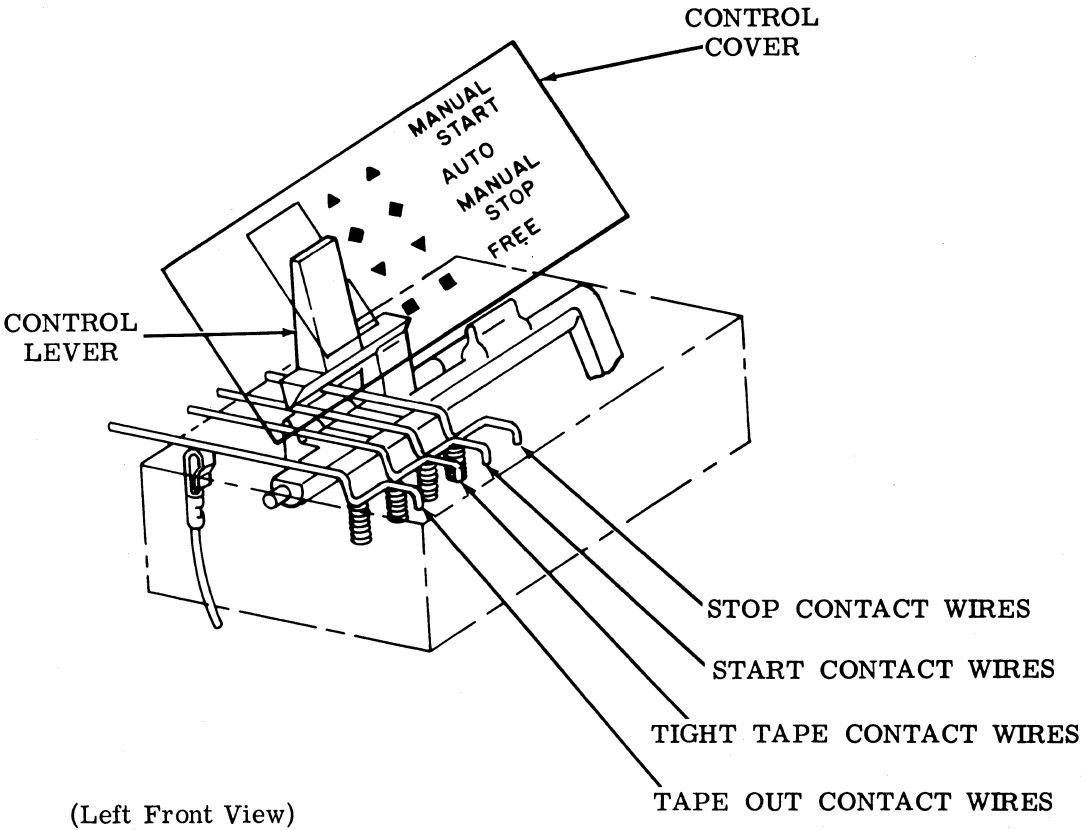
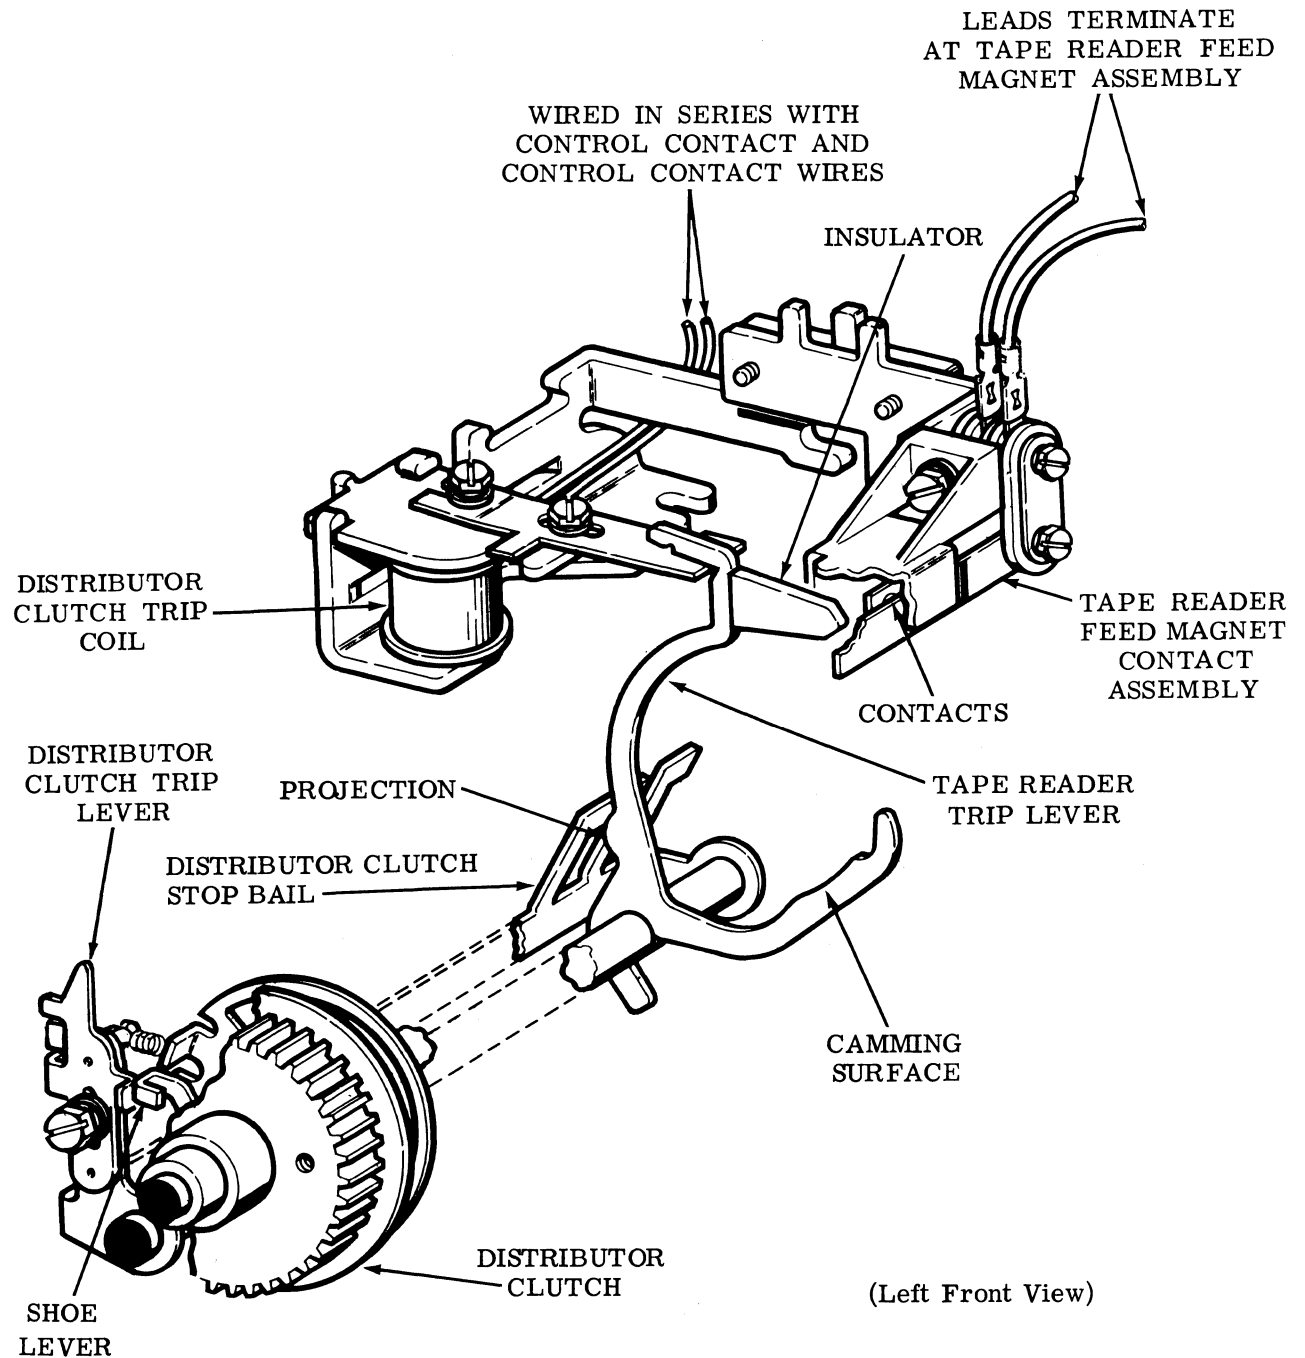
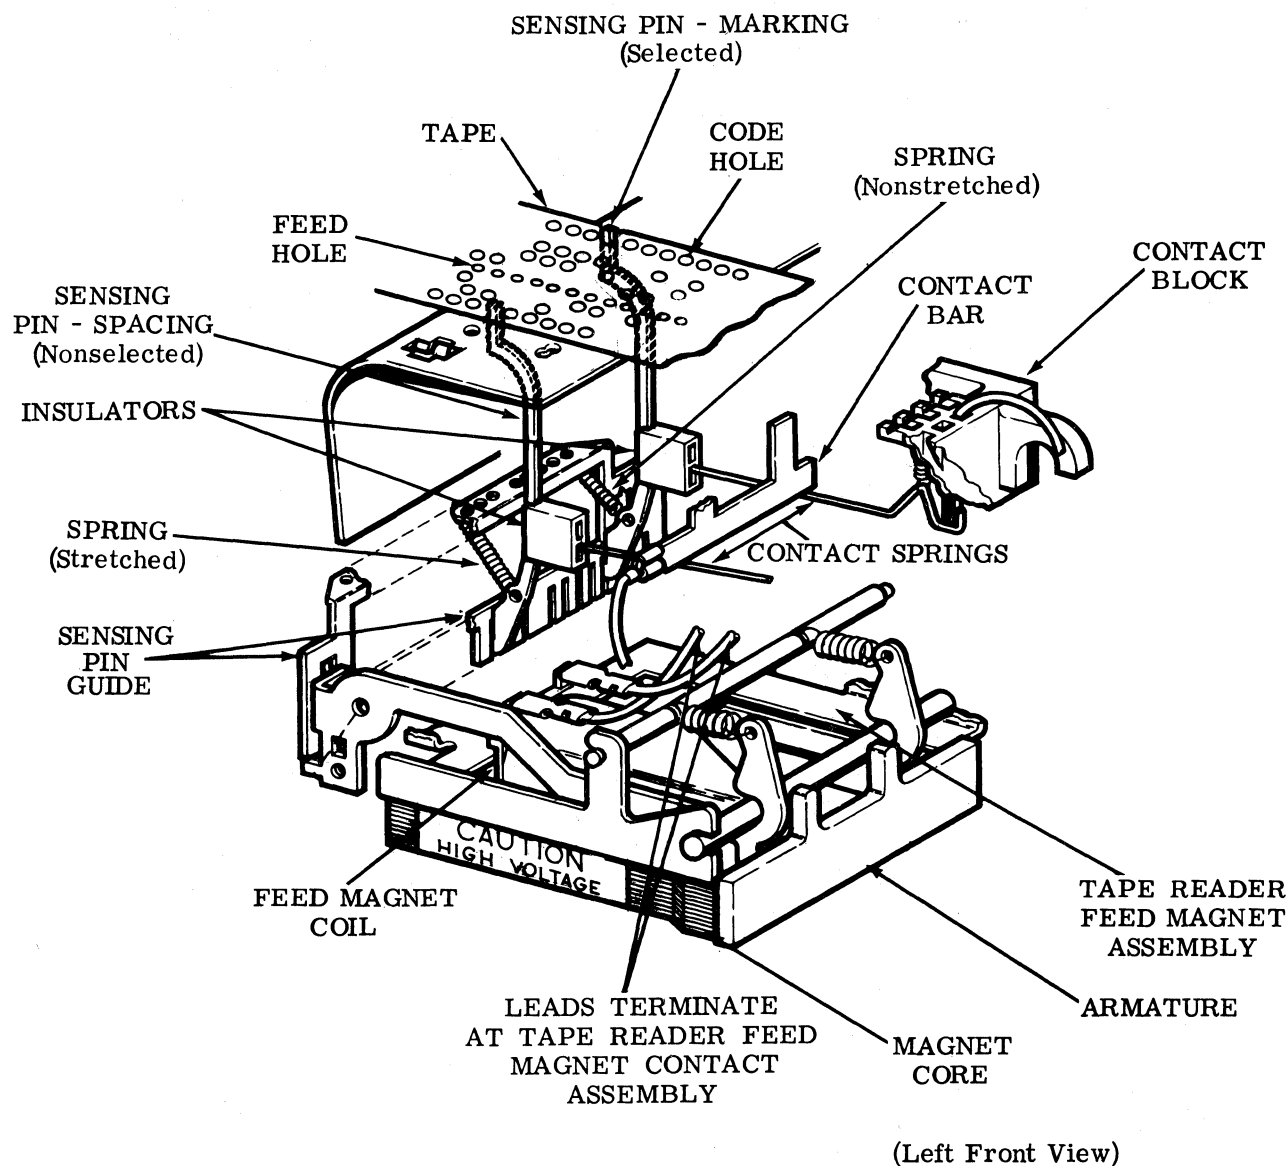

Figure 4 - Control Mechanism
Figure 5 - Distributor Trip Mechanism
Figure 6 - Feed Magnet and Sensing Mechanism
3.07 In the manual reader there are three positions for the control lever: START, STOP, and FREE. In the automatic reader there are four positions for the control lever: MANUAL START, AUTO, MANUAL STOP, and FREE. When the control lever is moved to the START position (MANUAL START position for the automatic reader — Figure 4) the spring biased start contact wires are positioned on the start contact. Since the start contact wires and the start contact are wired in series with the distributor clutch trip coil in the typing unit, the coil energizes and releases the tape reader trip lever (Figure 5).
3.08 When released the tape reader trip lever performs two functions; it closes the tape reader feed magnet contact assembly and trips the distributor clutch (Figure 5). The reader feed magnet contact assembly is closed by an
3.09 With the feed magnet contacts closed (Figure 5) the feed magnet in the reader mechanism is activated. The energized feed magnet coil attracts the armature (Figure 6). Rotating about its pivot the armature raises the armature extensions. Fastened to the ends of the armature extensions is a sensing pin guide.
3.10 In its upward travel the sensing pin guide carries with it eight spring-biased pins which sense the tape. Where a hole exists in the tape (marking) the sensing pin continues its upward travel and its associated spring remains unstretched. Where no hole exists in the tape (spacing) the sensing pin travel is blocked and its associated spring becomes stretched (Figure 6).